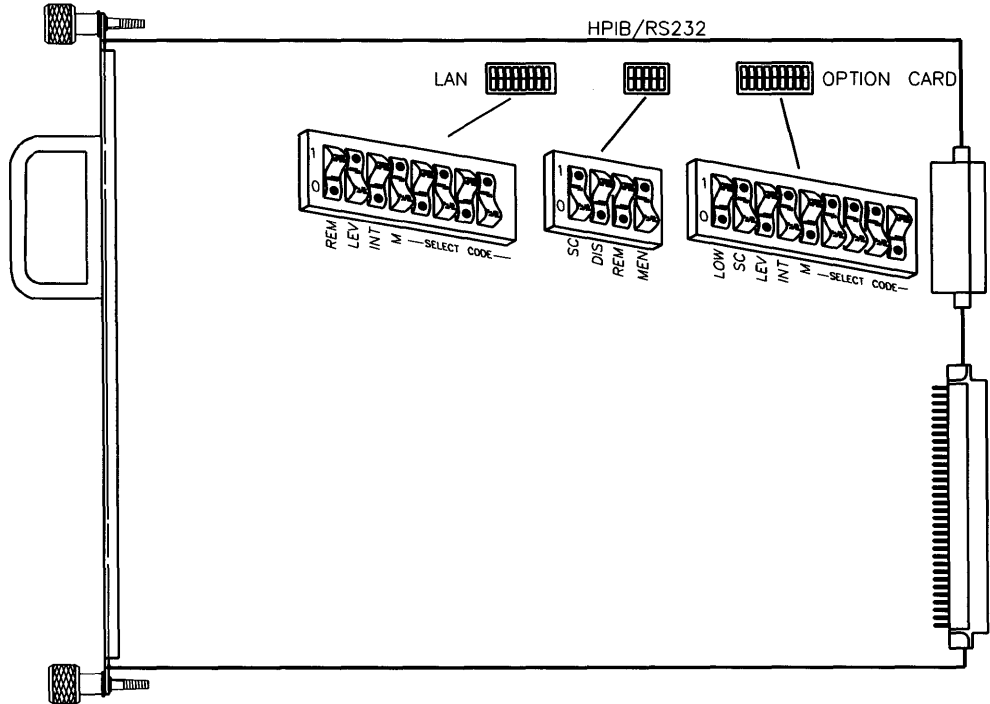

Figure 5-33.
- a. Find the group of four switches labeled “HPIB/RS232”. The switch labeled “SC” in this group is the System Controller switch (see Figure 5-33).
- b. If connecting two computers together via HP-IB, only one of them may be set to system controller. To change this interface to non-system controller, move the System Controller switch to the *0* position (the opposite of that shown in Figure 5-33).
- a. Find the group of four switches labeled “HPIB/RS232”. The switch labeled “DIS” in this group is the RS-232C Disable switch (see Figure 5-33).
- b. To disable the RS-232C Serial interface, move the *DIS* switch to the *1* position (the opposite of that shown in Figure 5-33).
If you later want to enable the RS-232C Serial interface, move the switch back to the *0* position as shown in Figure 5-33.
- a. Find the group of four switches labeled “HPIB/RS232”. The switch labeled “REM” in this group is the Remote Terminal Enable switch (see Figure 5-33).
- If you are connecting a terminal to this interface and want this terminal to be the system console, set this switch to *1*, which is the *opposite* of that shown in Figure 5-33.
- If you are connecting a terminal to this interface but *do not* want this terminal to be the system console, or if you are connecting any other device, set this switch to *0* as shown in Figure 5-33.
- a. Find the group of four switches labeled “HPIB/RS232”. The switch labeled “MEN” in this group is the Modem Lines Enable switch (see Figure 5-33).
- If you intend to connect an HP 2601A printer, an HP 2686A *LaserJet* printer, an HP 92205A/C Hayes *SmartModem*, or a uucp, set this switch to *1* as shown in Figure 5-33.
- If you intend to connect a terminal or the HP 39800/01A bar code reader, set this switch to *0*, which is the *opposite* of that shown in Figure 5-33.
- a. Find the group of eight switches labeled “LAN”. The five switches labeled “M” (for Most-significant bit) and “SELECT CODE” in this group are the LAN Select Code switches (see Figure 5-33).
- a. Find the group of eight switches labeled “LAN”. The two switches labeled “INT” and “LEV” in this group are the LAN Interrupt Level switches (see Figure 5-33).
- a. Find the group of nine switches labeled "OPTION CARD". The five switches labeled "M" (for Most-significant bit) and "SELECT CODE" in this group are the Select Code switches (see Figure 5-33).
- a. Find the group of nine switches labeled "OPTION CARD". The switch labeled "SC" in this group is the System Controller switch (see Figure 5-33).
- b. If connecting two computers, only one of them may be set to system controller. To change this interface to non-system controller, change the System Controller switch to 0 (the opposite of that shown in Figure 5-33).
SKIP? The Low/High Speed switch is preset to 0, "high speed," as shown in Figure 5-33. This setting is appropriate for most applications. If you want to change this setting, continue with step 12; otherwise skip to step 13.
- a. Find the set of nine switches labeled "OPTION CARD". The switch labeled "LOW" in this group is the Low/High Speed switch (see Figure 5-33).
- To set this switch to low speed, set the "LOW" switch to 1, which is opposite of that shown in Figure 5-33.
- To set this switch to high speed, set the "LOW" switch to 0 as shown in Figure 5-33.